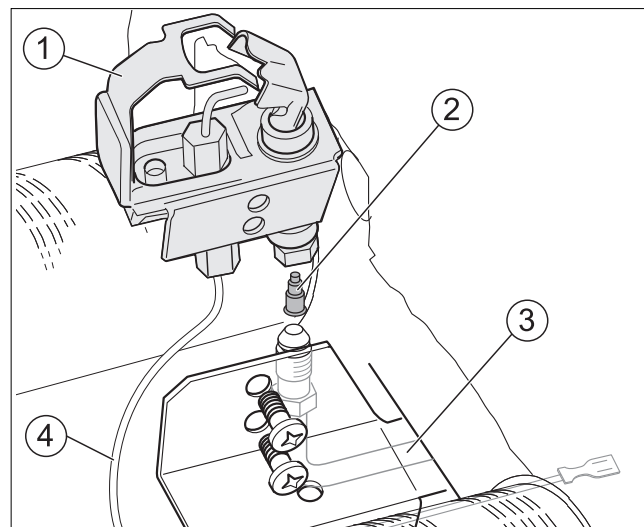

Fig. 35 Pilot burner
- ▶ Unscrew pilot burner unit (→ Fig. 35 [1]) from burner.